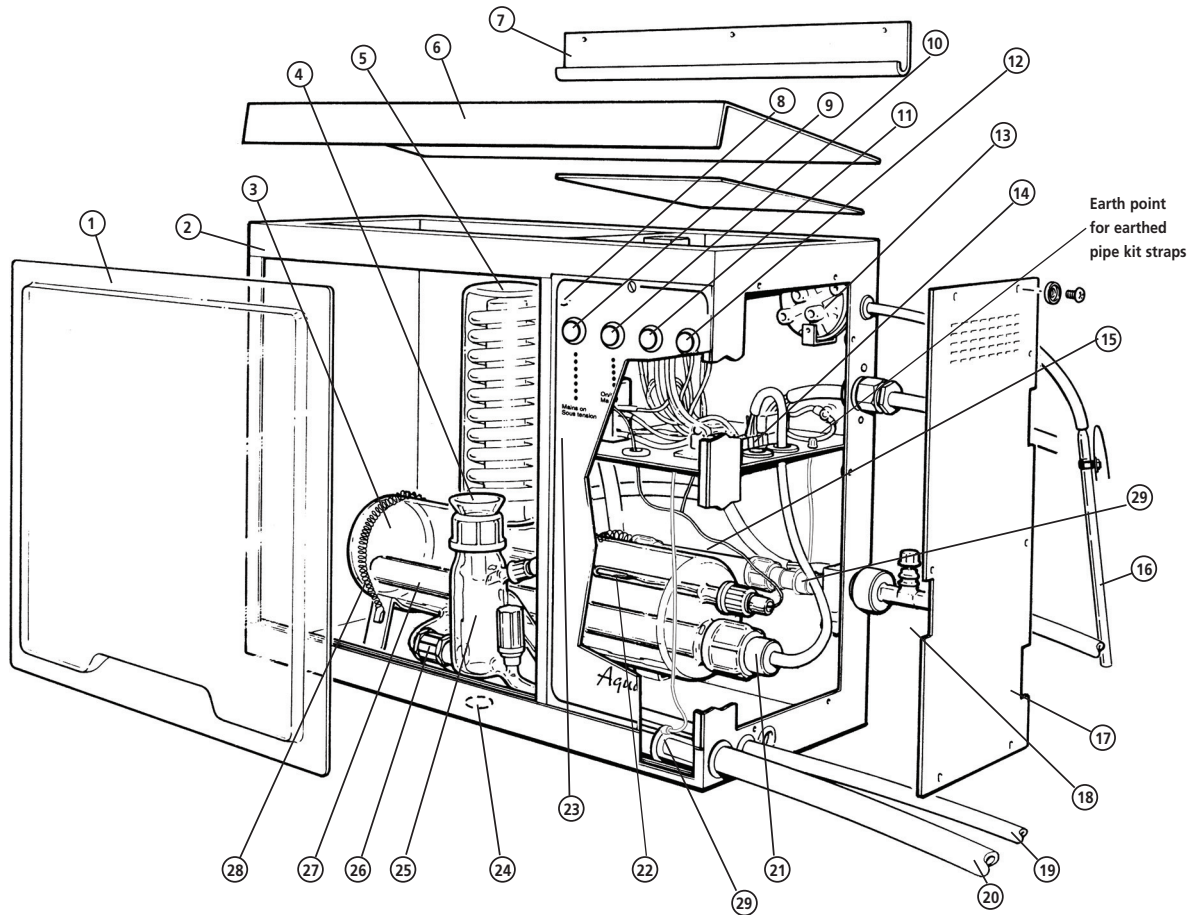
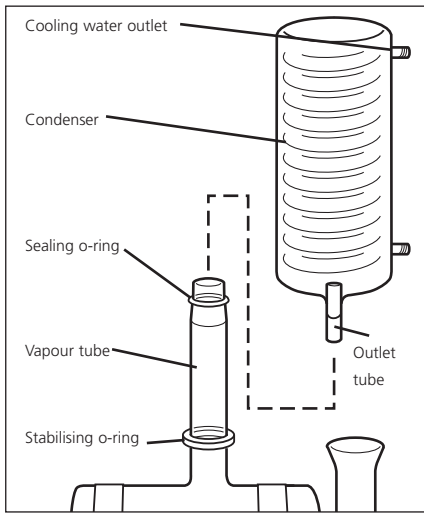
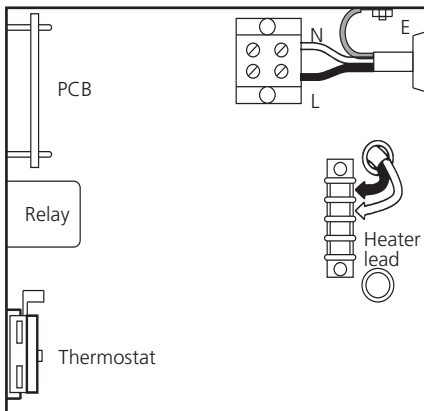

Fig 1: Major component parts A4000
Figure 3a
Figure 3 Termination for A4000
Your Aquatron A4000 has been designed with ease of assembly specifically in mind, but before commencing assembly please study the illustration, fig. 1 on page 2 to familiarise yourself with the general lay-out. During assembly, follow the sequence of instructions and do not connect the mains electricity supply until directed.
- 3 Remove the perspex viewing screen, item 1 fig. 1 by using the finger recess to lift the screen out of the lower cabinet groove, then remove the internal packaging which has protected the glass boiler during transit. Also sever the temporary tie holding the two boiler retaining springs, item 28 in place.
- 4 Remove the cabinet end plate, item 17 by unscrewing the six retaining screws and 'shake proof washers'. Similarly, unscrew the six countersunk screws to remove the cabinet roof (item 6).
- 5 Ensure that the sealing o-ring and stabilising o-ring are correctly positioned, as shown in Figure 3a. Fit the condenser WC48/M2 by mounting it onto the vapour tube of the boiler. Ensure the distillate outlet tube of the condenser faces the front and the cooling outlet faces parallel to the unit.
- 15 Pass the electric cable of the heater up into the electrical control compartment via the available orifice. Push the spade terminals onto the correct pins of the connecting strip (refer to fig. 1 and fig. 3).
- 17 Connect the cold water supply to the mains water inlet, item 18, fig. 1. Note the tubing selected should have a safe working pressure of at least equal to the pressure of the water supply and should be adequately secured by hose clips. Check to ensure that the two earth wires from hose assembly 1 and 3 are connected to the earth point as shown in fig. 1 and 20.
2. Ensure that the earth wire is connected correctly to the earth post - see figs 1 and 3b.
4. Ensure that the earth wire is connected to the earth post - see figs. 1 and 3b.